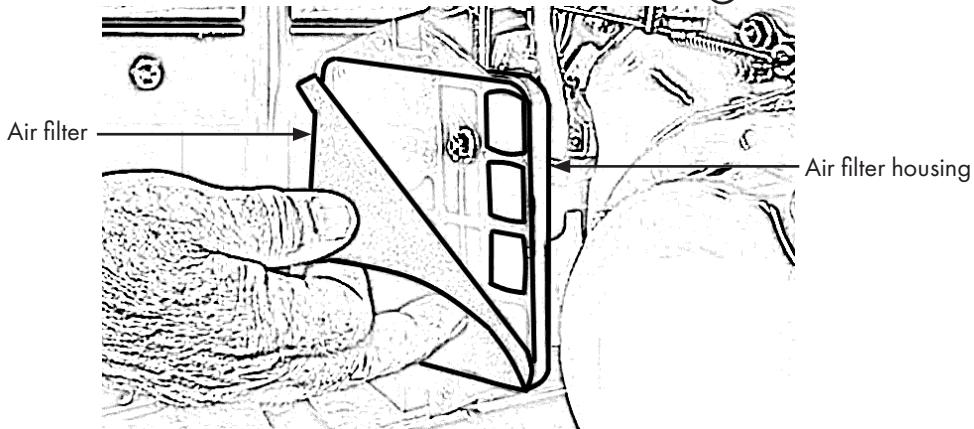

Figure 13
- Remove the air filter from the air filter housing, Fig. 13.